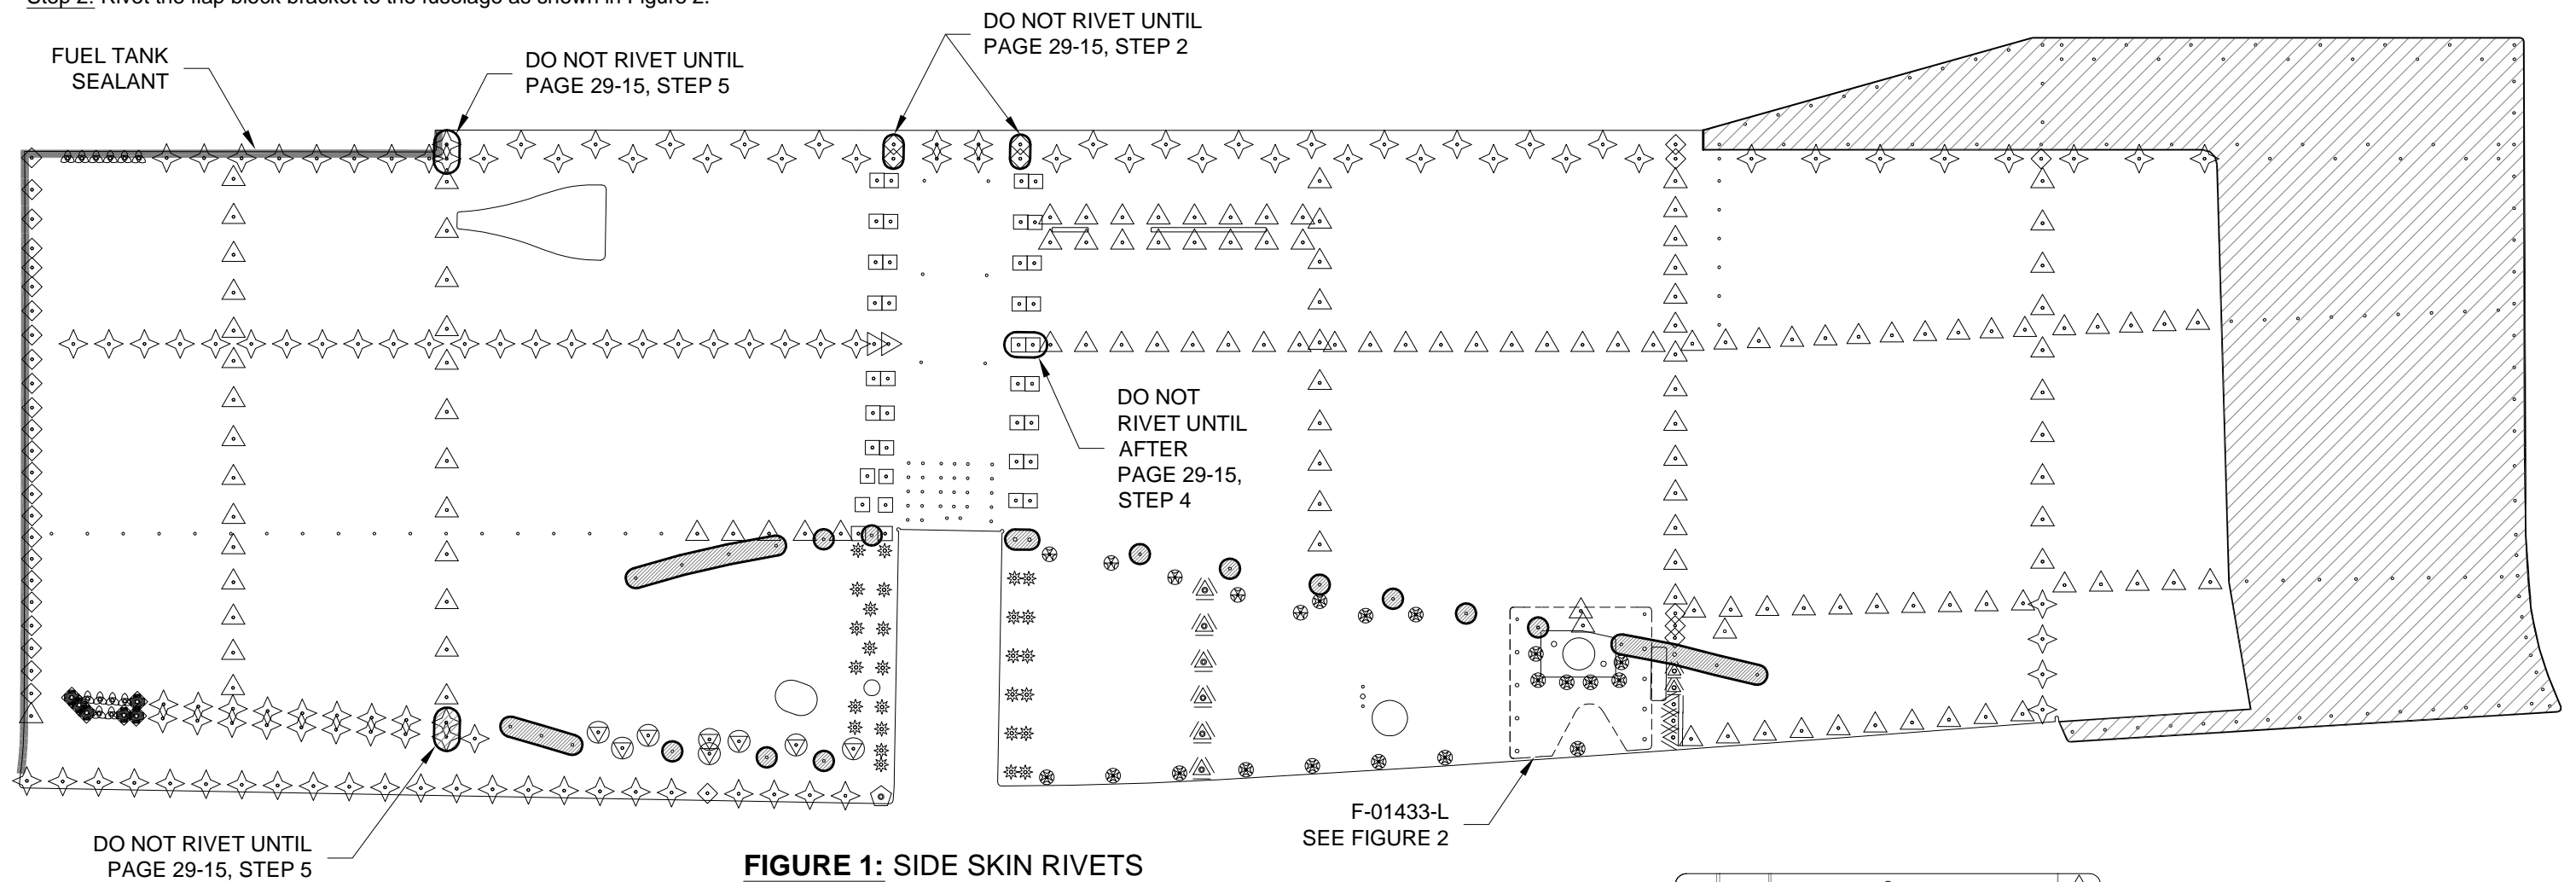

FIGURE 1: SIDE SKIN RIVETS
Step 1: Cleco the F-01433-L Flap Block Bracket to the inside of the fuselage as shown in Figure 1.